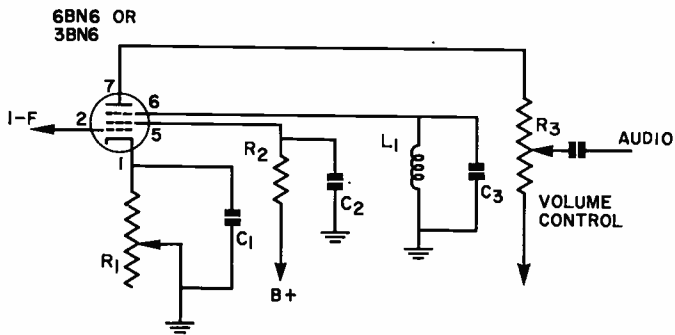
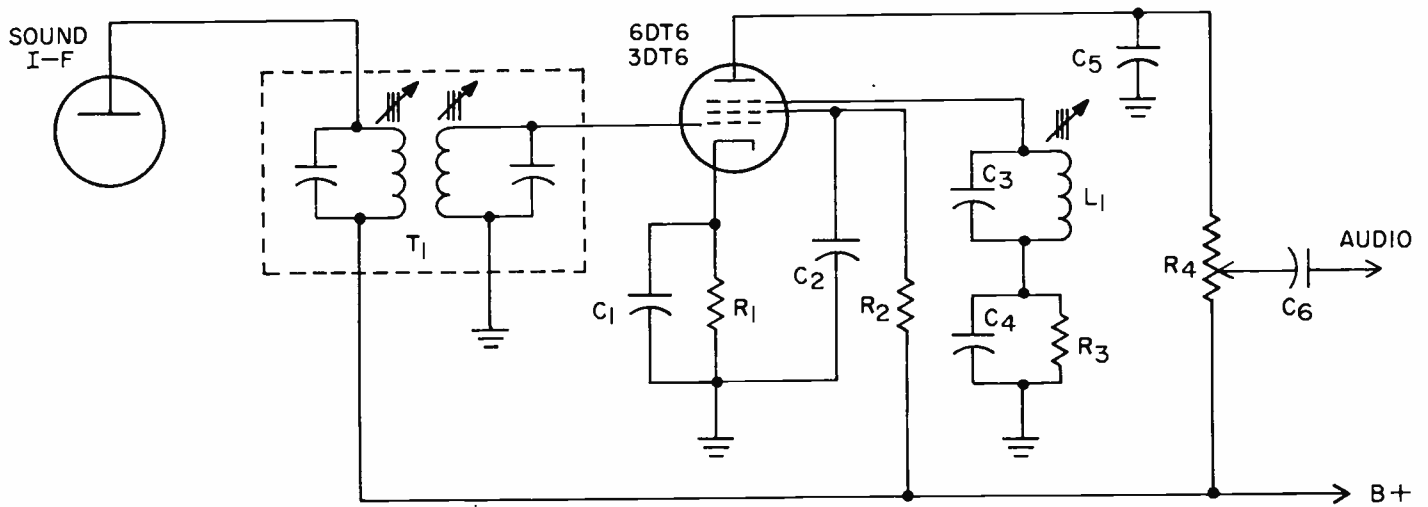

Fig. 42. Schematic of a gated-beam FM detector.
Fig. 44. Quadrature grid detector using a 6DT6 type of tube.
The quadrature grid detector also operates as both limiter and detector. Its principle of operation is somewhat different from that of the discriminator or the ratio detector, and it utilizes a tube of special construction. Either of two tube types can be used, a gated-beam tube such as the 6BN6 or 3BN6, or a dual control pentode such as the 6DT6 or 3DT6. The schematic diagram for a typical gated-beam detector circuit is shown in Fig. 42.
The circuit shown in Fig. 44 is not too different from the one shown in Fig. 42. The basic operation is the same, but in this circuit, the resistance between grid 3 and ground permits this grid to develop its own bias. The circuit has the advantage in that the buzz control can usually be omitted.
- (aq) What is the potentiometer in the cathode circuit of the 6BN6 in Fig. 42 called?